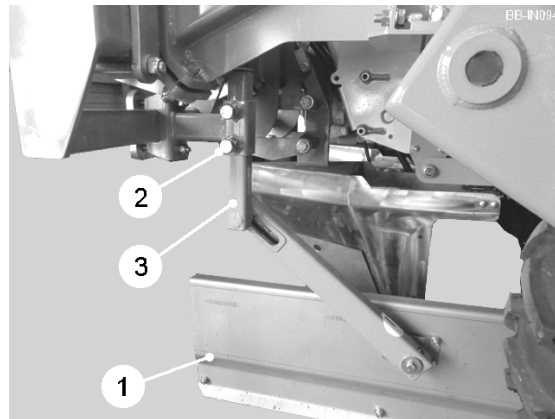

Fig. 12
The soil retention panels (item 1, fig. 12) prevent soil from flowing into the wheelings from the openers. Vertical adjustment is provided to allow the panels to be raised / lowered to match wheel height. To adjust the height, loosen the screws (item 2, fig. 12) and raise / lower the leg (item 3, fig. 12) to the required position.